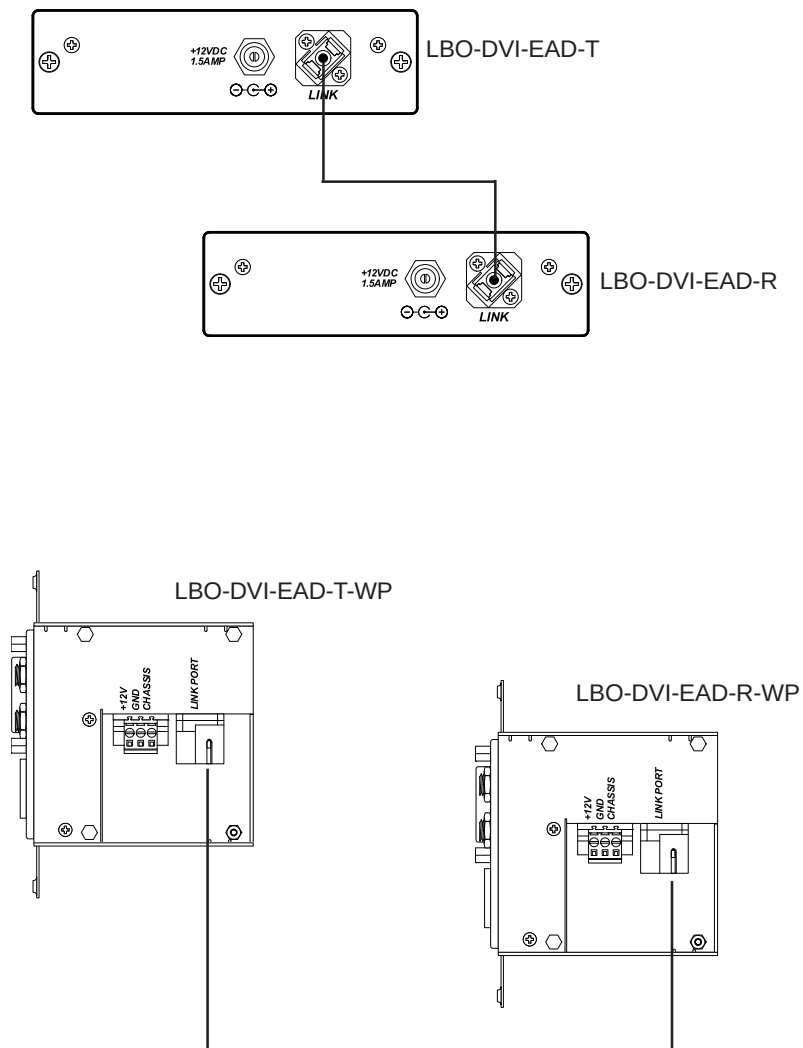

**Figure 2-5**
3. Connect the fiber from one unit to the other connecting the near end LBO-DVI-EAD-T unit's optical port to the far end of the LBO-DVI-EAD-R unit's optical RX port as illustrated in Figure 2-5.
2. Terminated fiber with SC optical connector to be directly plugged into the SC connector port of the LBO-DVI-EAD-WP units (see Figure 2-5).